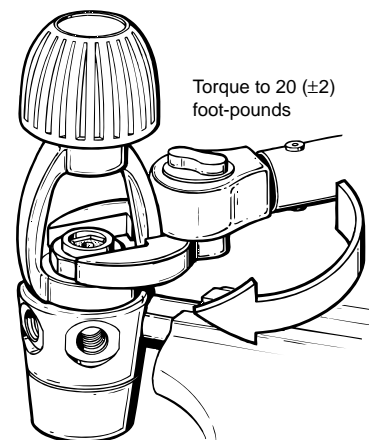

Fig. 9 - Torquing yoke retainer
15. Loosen the vise and turn the first stage over so that the yoke faces straight up, and refasten the vise securely onto the vise mounting tool. Apply a torque wrench with modified 26mm crow's foot to the yoke retainer, and tighten to a pre-set measurement of 20 (±2) foot-lbs (see Fig. 9).